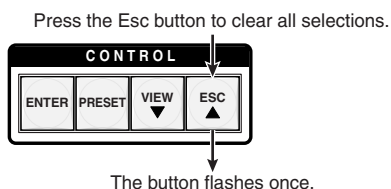

Figure 3-34 — Clear all selections
1. Press and release the Esc button (figure 3-34).